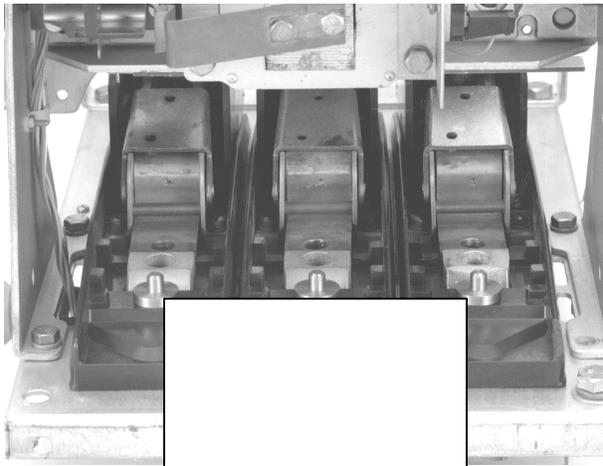

Figure 10. CT alignment dowels installed on a DB-25 breaker.
3. On DB-25 breakers only, insert the bus alignment dowel into the hole below each load terminal, as shown in Figure 10.